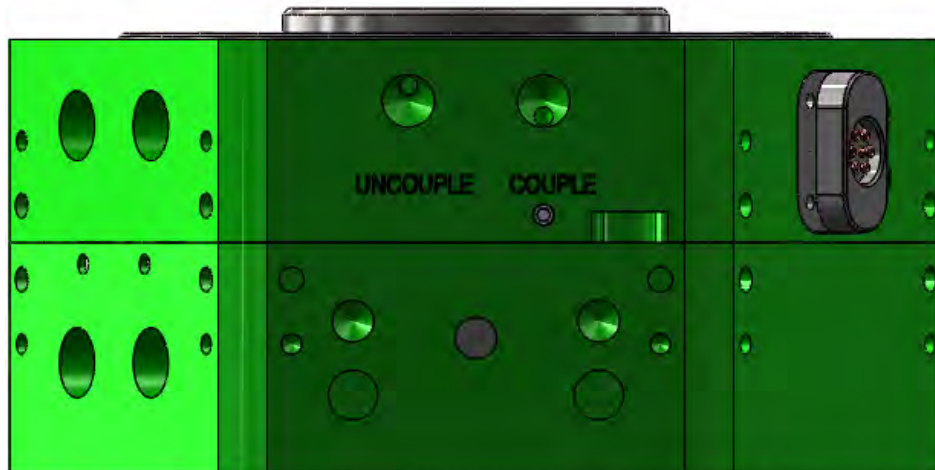

Figure 6.2-2. E100 Tool Changer – Docked Position
5. Stop the motion when the distance between the Robot Adaptor interface surface and Tool Adaptor interface surface are touching or as close as can reasonably be achieved. At this time, any electrical or fluid connections will be made through the use of available side modules. Note that when the interface surfaces of the Robot Adaptor and Tool Adaptor are in contact, the outer edge of the Adaptors should be touching (Figure 6.2-2).